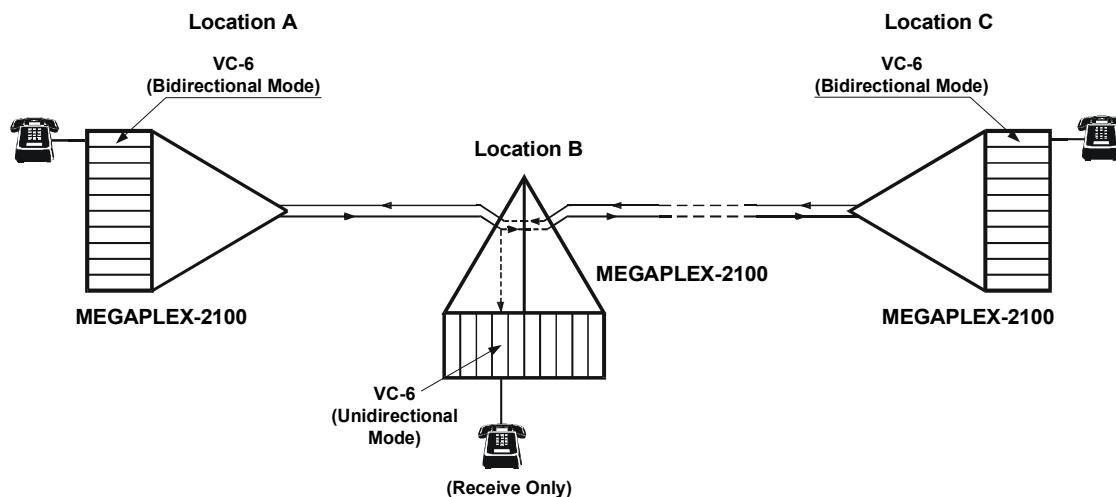

Figure 1-6. Typical Unidirectional Application for VC-6 Modules
The unidirectional mode, supported by the VC-6/E&M modules, enables a user at a central location to send messages to users connected to remote Megaplex-2100/2104 units (simplex communication), while using only one main link timeslot. In this mode, any message is simultaneously heard by all the unidirectional users, but none of them can answer. This capability is achieved by separating the handling of the receive and transmit paths in the timeslot assigned for the unidirectional channels, as shown by the dashed lines within the Megaplex-2100 unit at location B in *Figure 1-6*.
Figure 1-6 shows a simple system configuration. The figure shows only one Megaplex-2100 unit (location B) with a VC-6 channel configured for the unidirectional mode and assigned a timeslot on link A, but the number of such units is not limited.
In the application shown in *Figure 1-6*, the user at the central location (A) is connected to a VC-6 channel configured for operation in the normal mode. The timeslot assigned to user A is routed to the desired main link, and the channels of the other users (e.g., at location B) are configured for the unidirectional mode, and routed to the same timeslot on the main link connected to the Megaplex-2100 at location A (e.g., to link A).